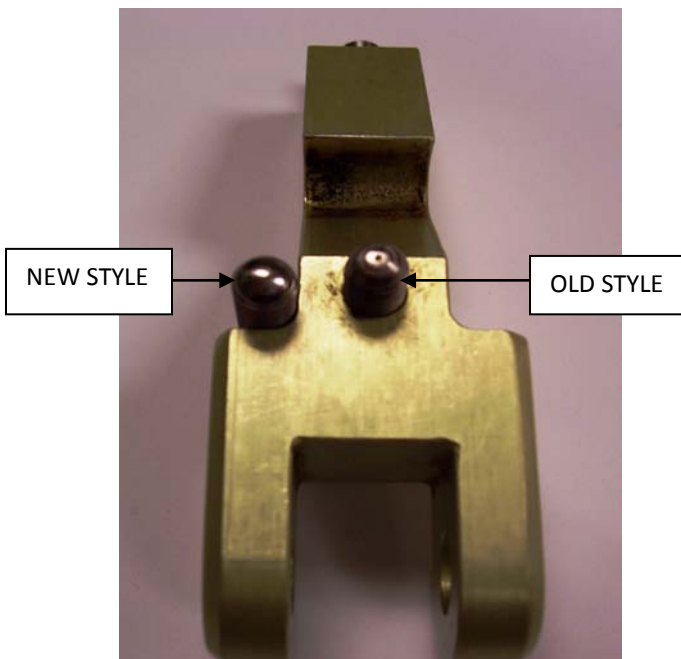

FIGURE 3
8. The product improvement part of this Service Letter is that the set screw is now manufactured so that there is no indent at the tip. Figure 3 illustrates the difference